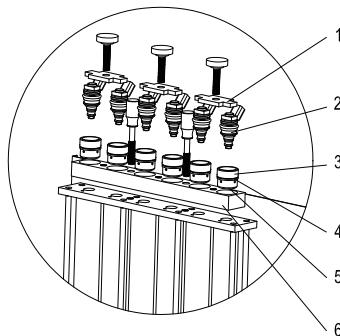

Fig. 06
- Choose proper couplers for side-supply injectors (3) and proper O-rings, and mount them together. (Remember to apply a little lubricating grease.)
- Mount the cross plate (1) and tighten it with bolts.
- Mount the fuel distributor and injectors onto the fuel distributor supporter, and tighten them with two riffle screws (black). See Fig. 06.